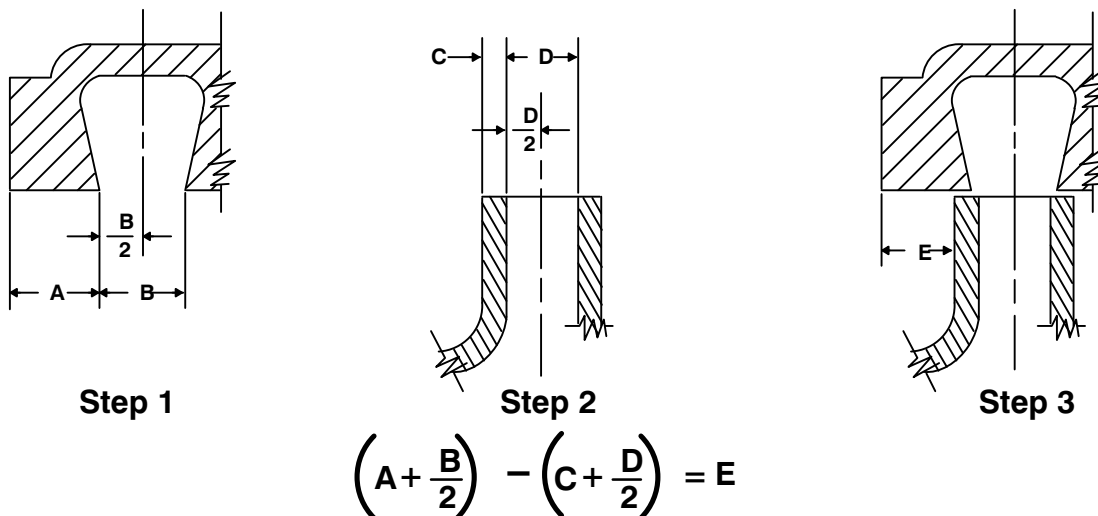

Figure 4. Centering Impeller Within Pump Casing
To verify the impeller positioning, measure the pump casing and impeller as shown in Figure 4. Use these measurements to calculate the required impeller location (dimension E). Add or remove gaskets in the pump casing gasket set (31) until dimension E is obtained.